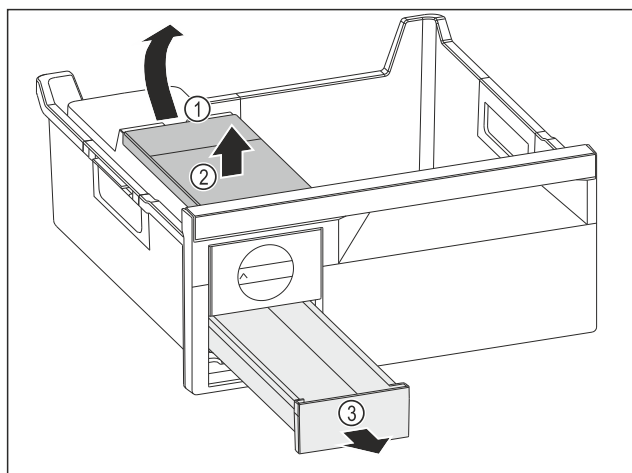

Fig. 182
- ▶ Removing the water tank: Lift the water tank at the recess Fig. 182 (1).
- ▶ Remove the water tank Fig. 182 (2) upwards.
- ▶ Remove the ice cube tray Fig. 182 (3) from the front.